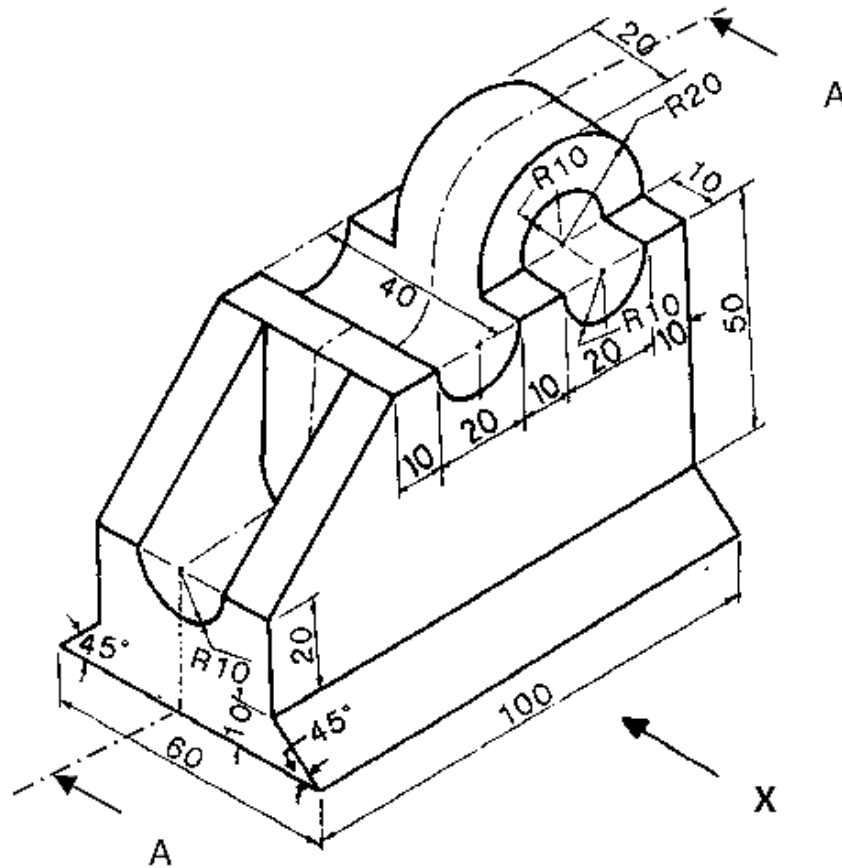

Figure 8
2. Draw the following View for **Figure 8**